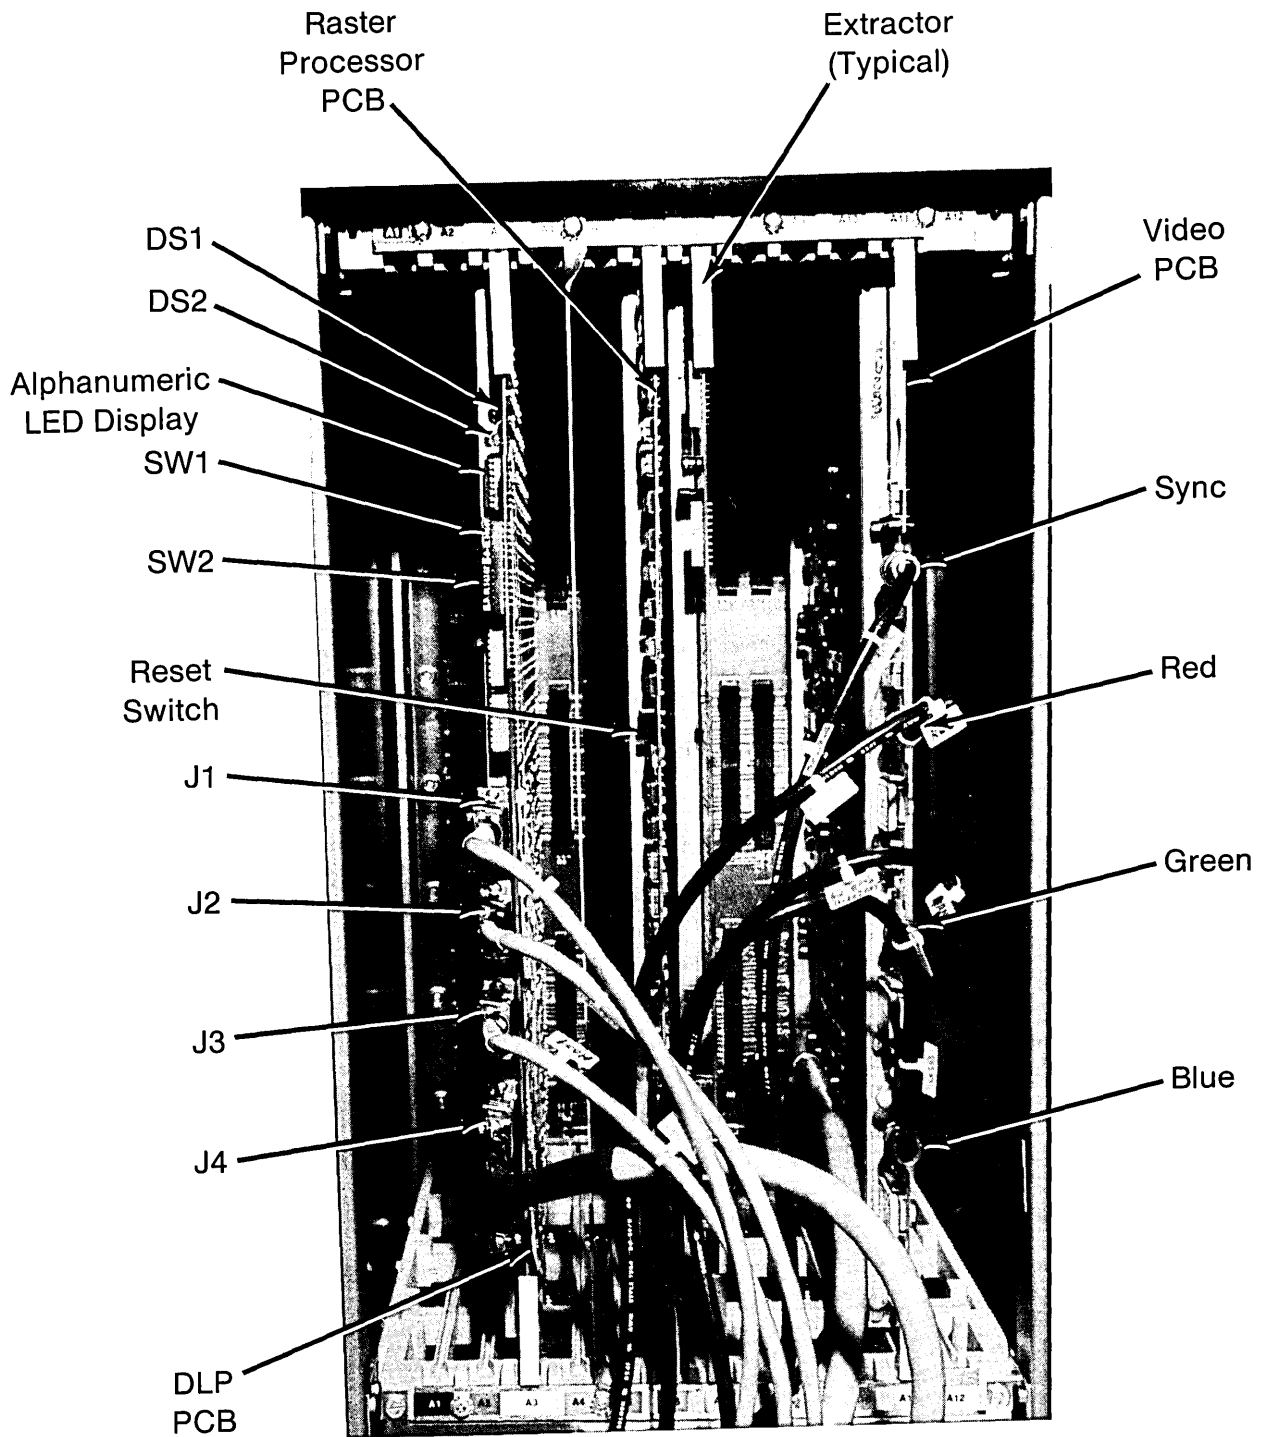

Figure 2-15. PCB Features
PCBs. The front-loaded PCBs are made of epoxy glass laminate. Each board has at least four layers of laminate. Components and integrated-circuit (IC) sockets are mounted on one side of the board and soldered to copper-foil circuit traces etched on the board. An alphanumeric coordinate grid facilitates component location. Component rows are identified by number, columns by letter. Each front-loaded PCB has three 96-pin connectors that mate with backplane PCB connectors. Each front-loaded PCB is equipped with two extractors (figure 2-15) that are color-coded for PCB identification, and serve as handles for convenient PCB removal. After a PCB is inserted, the extractors lock when pressed, holding the PCB in place. Each PCB is marked with a serial number, assembly number, and revision level. The disk interface PCB, which is smaller than the other PCBs, has two 96-pin connectors that plug into mating connectors on the rear side of the backplane. A cable from the disk drive plugs into a 26-pin connector on the disk interface.